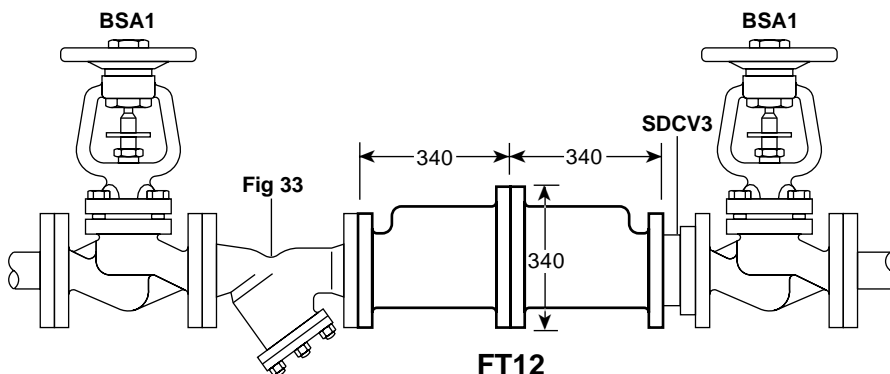

Fig. 2 Dimensions approximate in mm **Weight** approximately 82 kg
- 3.4** The trap is designed for installation in a horizontal plane. A typical installation is shown in Figure 2. Where air is present as part of the process cycle a separate thermostatic air vent can be fitted in parallel.